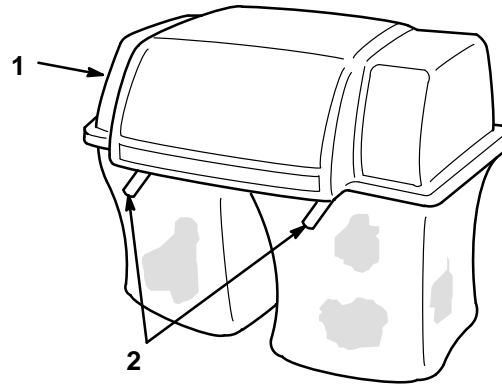

**Figure 20**
5. Install the bags by sliding the bag frame hooks onto the retaining brackets (Fig. 20).